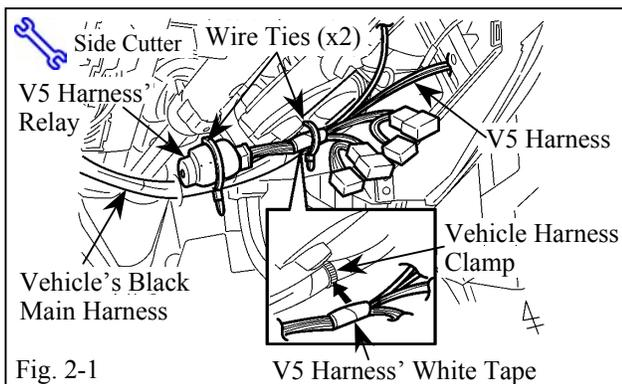

Fig. 2-1
- (a) Locate the vehicle harness clamp on the steering shaft area. Secure the white taped marker of the V5 harness next to the vehicle harness clamp with one wire tie. (Fig. 2-1)
- (1) Line up the V5 harness' white tape marker to the vehicle harness clamp.
(Fig. 2-1)